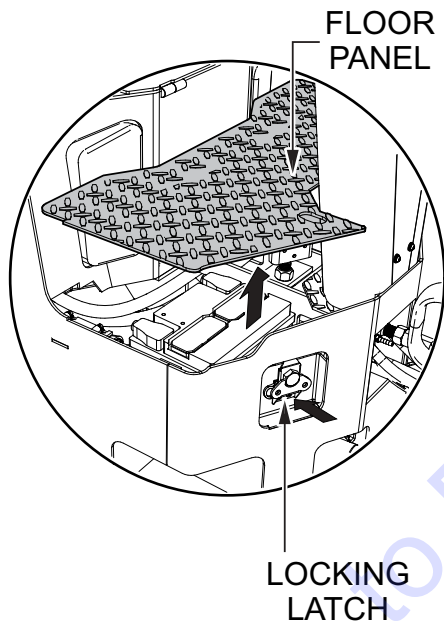

Figure 2. Floor Panel Removal
1. Release the latch (Figure 2) that secures the floor panel to the frame.